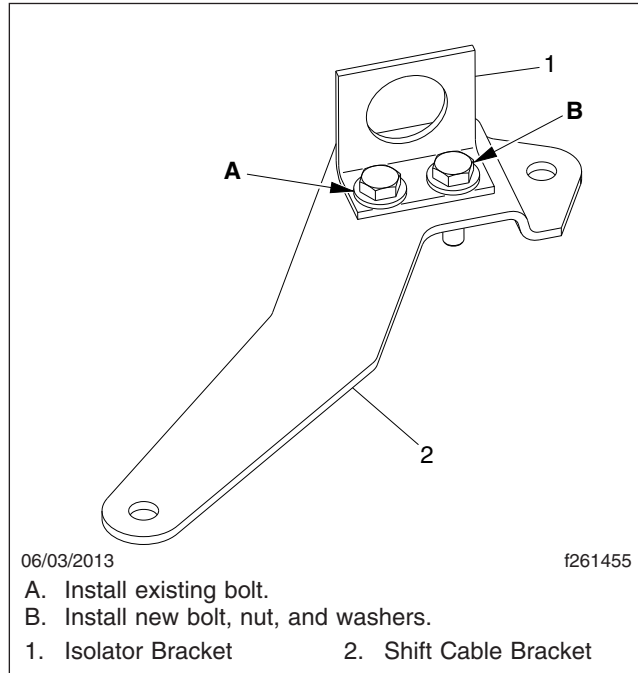

Fig. 10, Isolator Bracket Installation, Kit KPP 294201
- Install the new bracket on the shift cable bracket, using the existing capscrew and the new bolt, nut, and washers. See Fig. 10. Tighten the existing capscrew 35 lbf-in (395 N-cm), and the new bolt 60 to 84 lbf-in (680 to 950 N-cm).